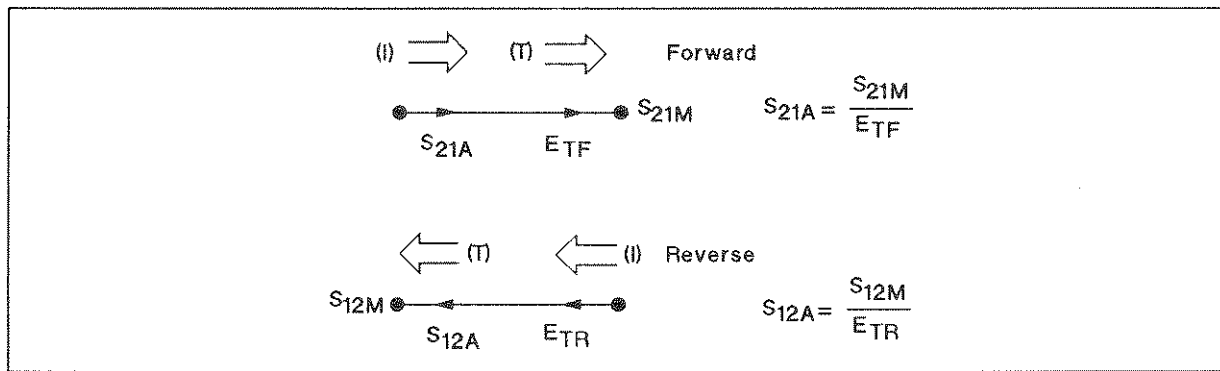

Figure 7-36. Transmission Coefficient
Measuring Transmission Coefficient. The transmission coefficient is measured by taking the ratio of the incident signal (I) and the transmitted signal (T) (Figure 7-36). Ideally, (I) consists only of power delivered by the source, and (T) consists only of power emerging at the test device output.